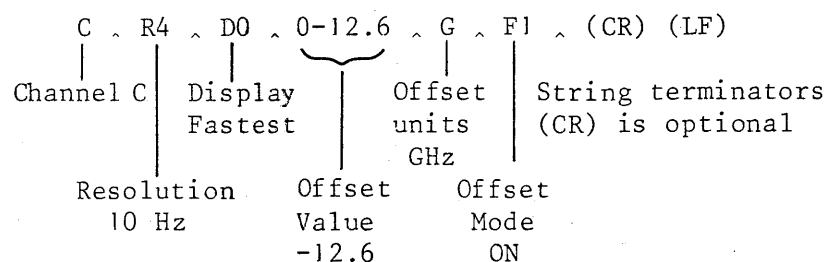

Fig. 4 Typical program string
47. When the instrument has been addressed to listen as part of the routine GPIB protocol, it can be set to the required operating conditions by a string of program codes terminated by a Line Feed (LF) (usually accompanied by End or Identify EOI) as shown in Fig. 4. In this and subsequent examples the symbol '^' indicates a space.